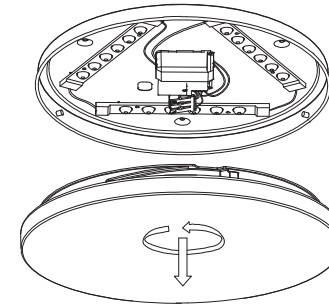

fig. 1
- fig. 1:** If necessary, remove the dome from the base plate (bayonet lock).